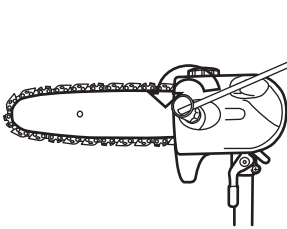

Fig. 17
2). Place the product on a suitable flat surface with the cover (2) facing upwards.
3). Loosen locking nut (3) with the socket wrench anticlockwise and remove it together with the spring washer (4) and cover (2). (See Fig. 17, 18)